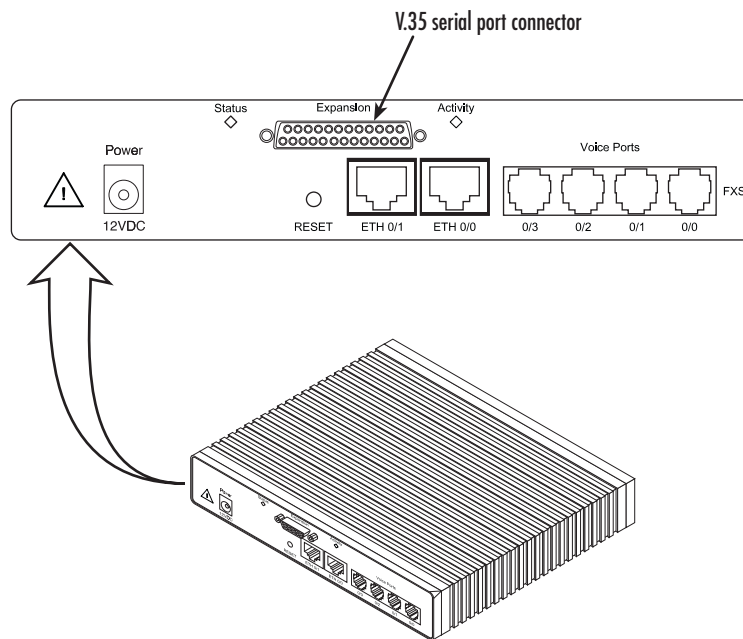

Figure 16. Rear view of the SN4830 showing location of V.35 interface connector
**Installing the V.35 interface cable.** The SmartNode Model 4830 comes with a V.35 interface presented on a DB-25 female connector (see figure 16).